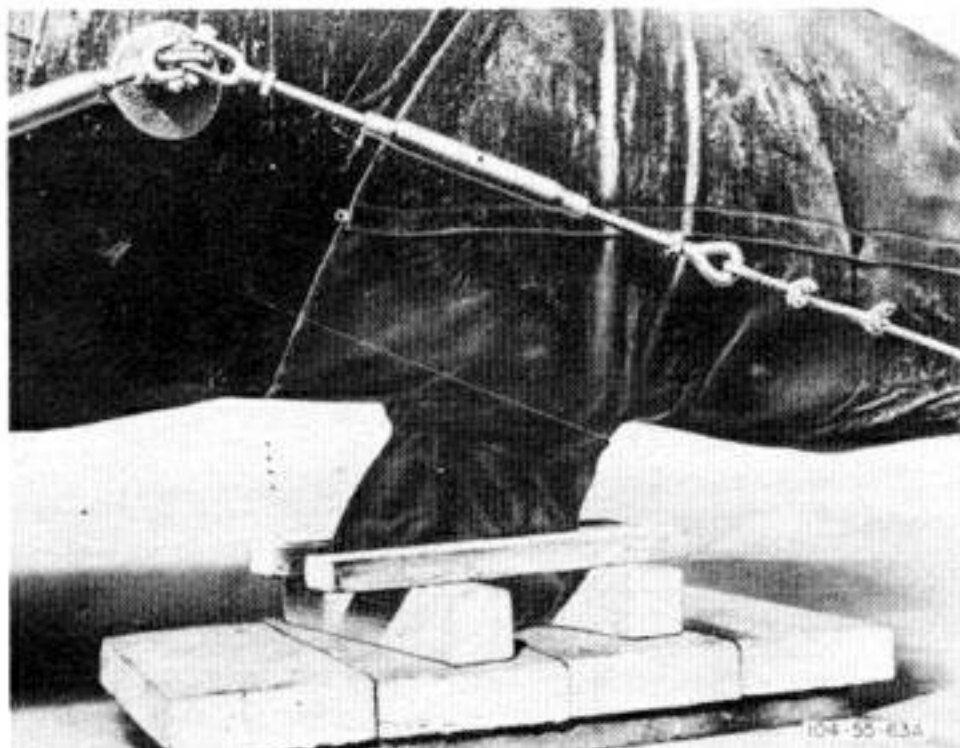

Figure 39—Lashing at Tail Section
5. Lash the tail wheel to the deck. (*See figure 39.*)